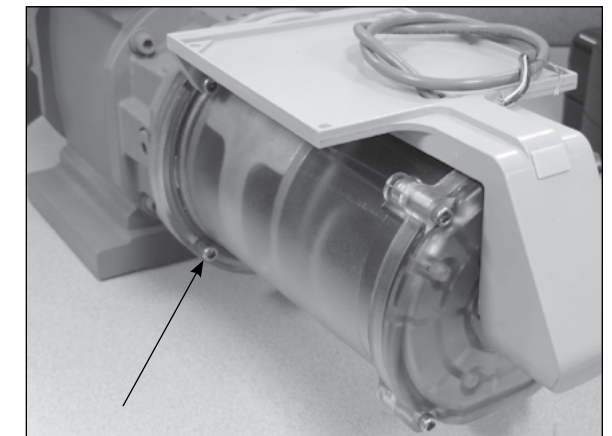

Figure 10.30 - Insert the 3/4 inch (short) screw
- D. Insert the remaining 3/4-inch (short) screw into the open hole on the back side of the unit as shown in Figure 10.30.